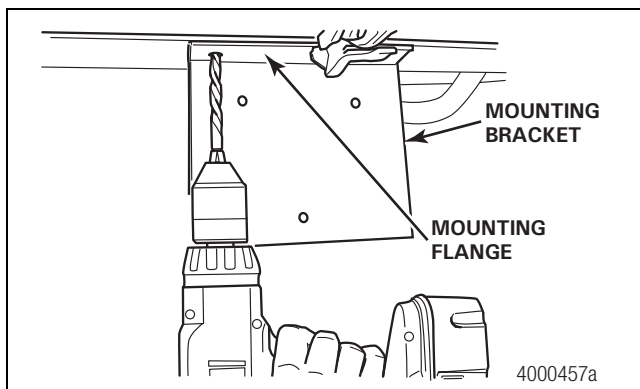
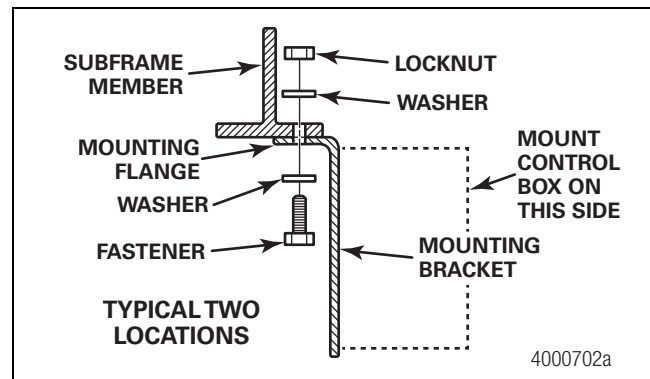
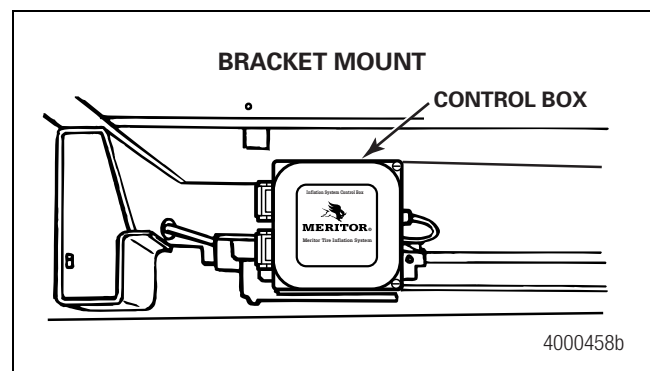

Figure 2.51
Figure 2.52
Figure 2.53
- Use the supplied mounting bracket as a template and drill two 5/16-inch (0.80 cm) holes into the trailer subframe. Use the supplied fasteners, washers and locknuts to secure the bracket to the subframe. Figure 2.51 and Figure 2.52.
4. Install the control box to the mounting bracket opposite side of the mounting flange using the supplied 1/4-inch (6.36 mm) fasteners, washers and locknuts. Figure 2.52 and Figure 2.53.